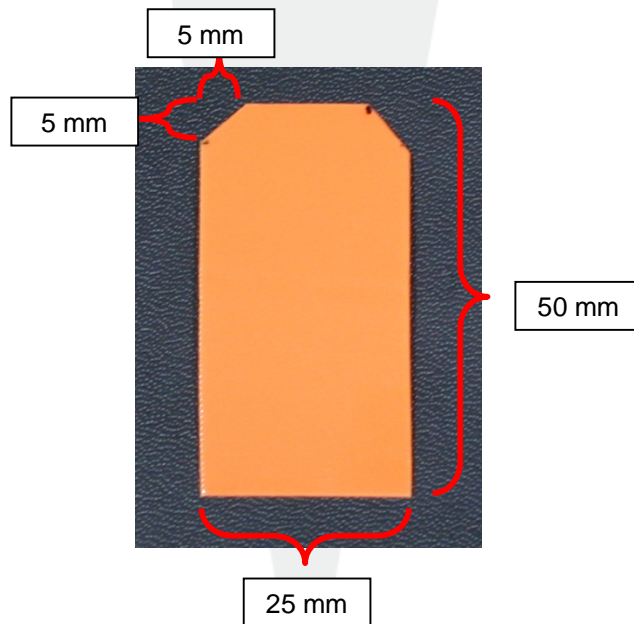

Figure 28
4. Cut 2 pieces of shim stock 50 mm x 25 mm. On one of the short (25 mm) edges, cut off the corners 5 mm inward from each side (Figure 28).